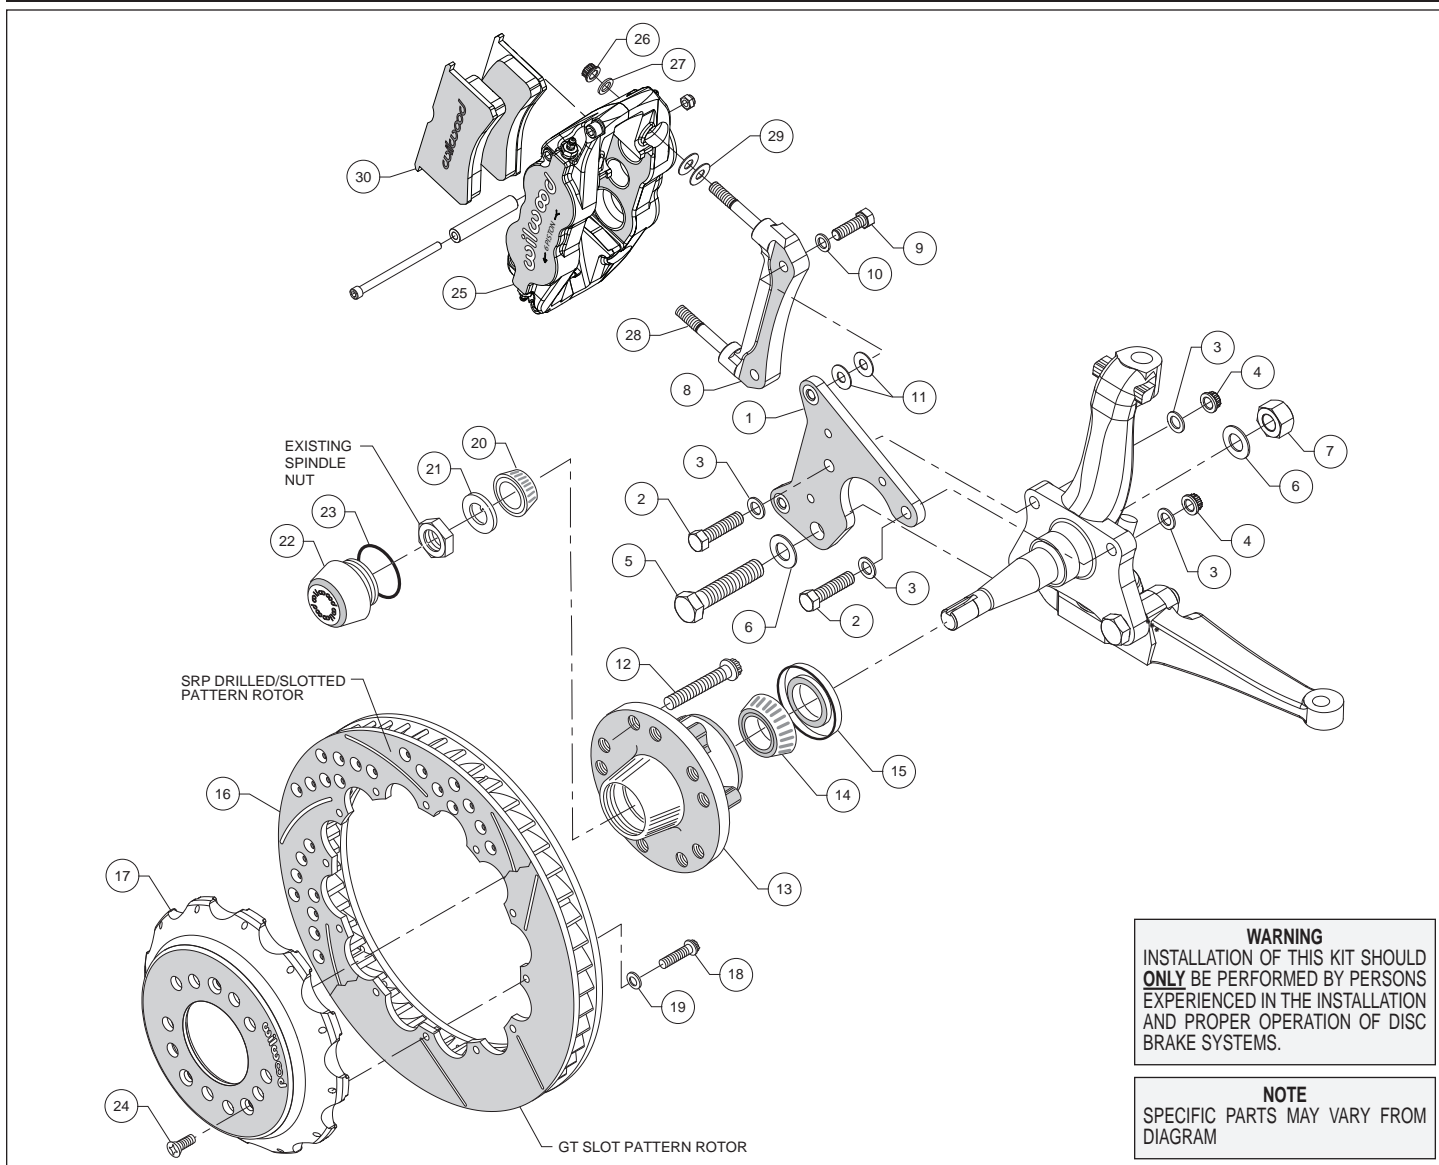
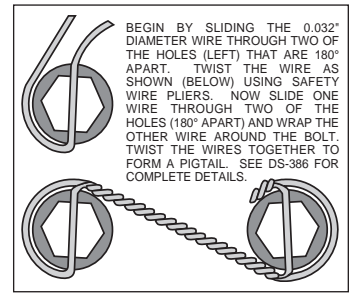

Figure 1. Typical Installation Configuration
Figure 3. Safety Wire Diagram
Assembly Instructions (numbers in parenthesis refer to the parts list and Figure 1 on the preceding pages): **CAUTION:** All mounting bolts must fully engage clinch nuts. Be sure to check that all bolts are protruding through flanged side of clinch nut after shimming.
- Orient the spindle bracket (1) as shown in Figure 1 and Photo 1, and install using bolts (2), washers (3), and nuts (4) on the top holes and bolt (5), washers (6), and nut (7) on the bottom hole, Figure 1 and Photo 1. Temporarily tighten the mounting bolts. Ensure that the flanged heads of the clinch nuts in the bracket are facing outboard, Photo 1. **NOTE:** The bracket must fit squarely against the mounting points on the spindle. Inspect for interference from casting irregularities, machining ridges, burrs, etc. Remove nuts one at a time, apply red *Loctite*® 271 to bolt threads and torque nuts (4) to 47 ft-lbs. and nut (7) to 140 ft-lbs.
- The caliper mount radial bracket (8) should initially be installed with clean, dry threads on the mounting bolts. Orient the bracket as shown in Figure 1, and Photo 2. Install onto the spindle bracket using bolts (9), and washers (10). Initially place two .035 thick shims (11) on each bolt between the radial and spindle brackets, Figure 1. Temporarily tighten the mounting bolts. Later, after the caliper alignment has been checked, the mount bolts will be secured using red *Loctite*® 271.
- Install wheel studs (12) into the hub (13), Photo 3. Torque to 77 ft-lb. **NOTE:** There are two five lug patterns in the hub (5 x 4.50 and 5 x 4.75). Ensure the correct hub stud pattern is being used to fit the wheel application.
- Pack the large inner bearing cone (14) with high temperature disc brake bearing grease (available from your local auto parts store) and install into the backside of the hub (13), Photo 4.
- Install the grease seal (15) by pressing into the backside of the hub (13), flush with the end of the hub, Photo 4.
- Orient the rotor (16) and the hat (17) as shown in Figure 1 and Photo 5. Attach rotor to hat using bolts (18) and washers (19). Using an alternating sequence, apply red *Loctite*® 271 to the threads, and torque to 155 in-lbs. For an added measure of security, the bolts may be safety wired using standard 0.032 inch diameter stainless steel safety wire as shown in Figure 3. Refer to Wilwood's data sheet DS-386 for complete safety wire installation instructions.
- Pack the small outer bearing cone (20) with high temperature disc brake bearing grease and install into hub (13). Slide the hub
- NOTE:** *This kit contains distinct right and left hand calipers that must be mounted in a specific direction, as described below.* Lubricate the caliper mounting studs (28) with lightweight oil. Initially place two .035" thick shims (29) on each stud between the caliper and the bracket, as shown in Figure 1 and Photo 8. Mount the caliper (25) onto the bracket (8) using lock nuts (26) and washers (27), Figure 1. Ensure that the caliper is mounted so the largest pistons are at the rotor exit end of the caliper, in relation to the direction of rotor rotation. Temporarily tighten the lock nuts and view the rotor through the top opening of the caliper. The rotor should be centered in the caliper, Photo 9. If not, adjust by adding or subtracting shims (11) between the spindle bracket (1) and the caliper mount bracket (8). Always use the same amount of shims on each of the two mounting bolts. Once the caliper alignment is correct, remove the radial bracket mounting bolts one at a time, apply red **Loctite**® 271 to the threads, and torque to 40 ft-lb. **NOTE:** *The end of the bolts must be flush with, or protruding through, the head of the clinch nut.*